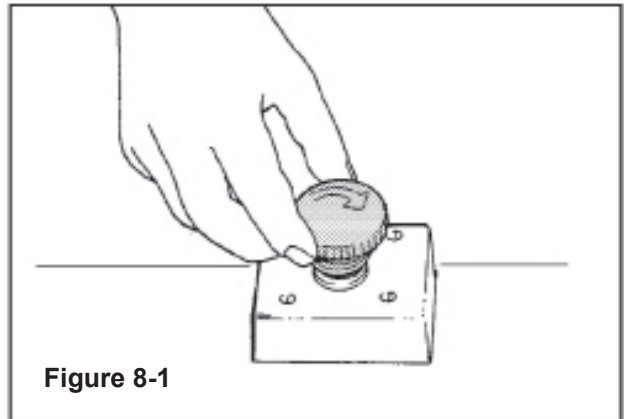

Figure 8-1
- The EMERGENCY STOP BUTTON unlocked (Figure 8-1)
The LATCHING EMERGENCY STOP BUTTON is located on the top center of the machine (Figure 8-1).